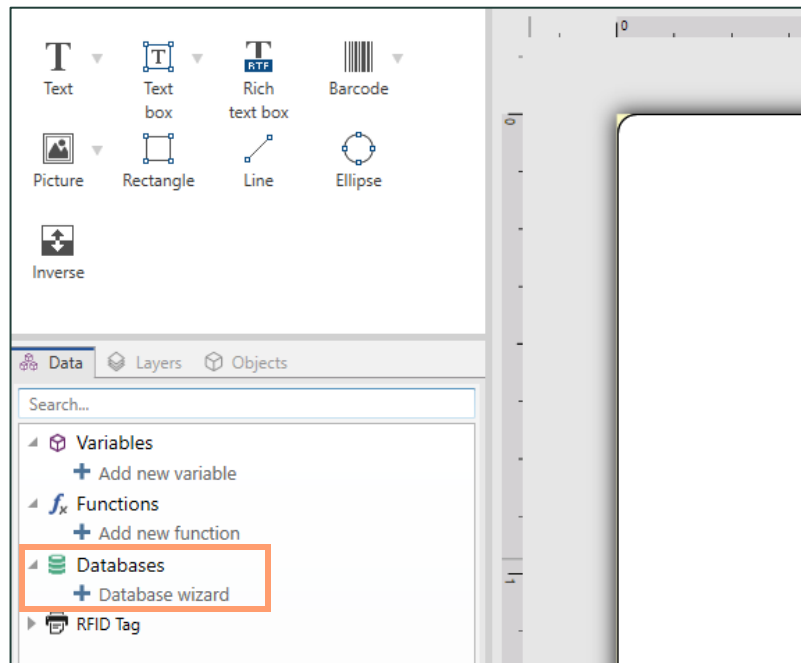

Figure 14: Database Wizard selected
8. Select the Database wizard on the left toolbar – **see figure 14**.